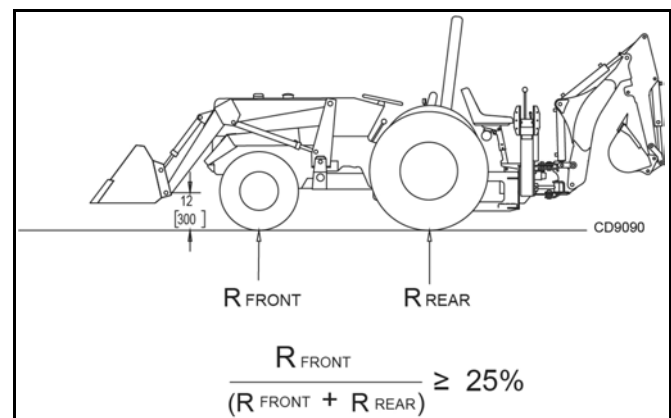

Figure 3. Backhoe Stability Calculation
■ Weigh the tractor and equipment as shown in Figure 3. The weight on the front tires, divided by the total weight on both front, plus rear tires, must be at least 25%.